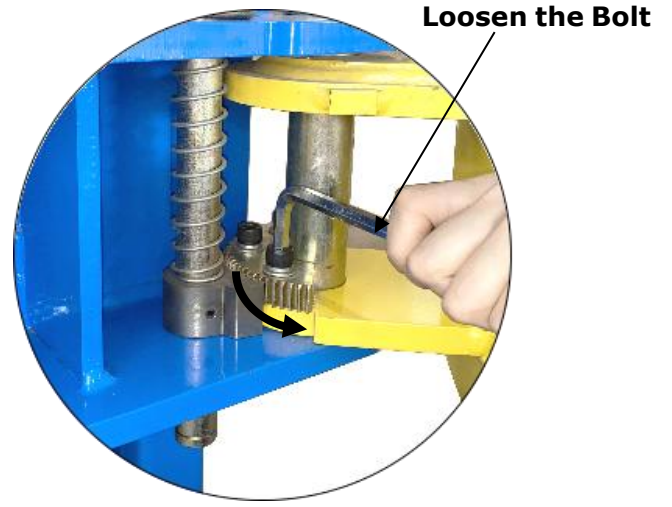

Fig. 37
2. Lowering the carriages to the lowest position, then use the 8# wrench to loosen the nut of arm lock (See Fig. 37).